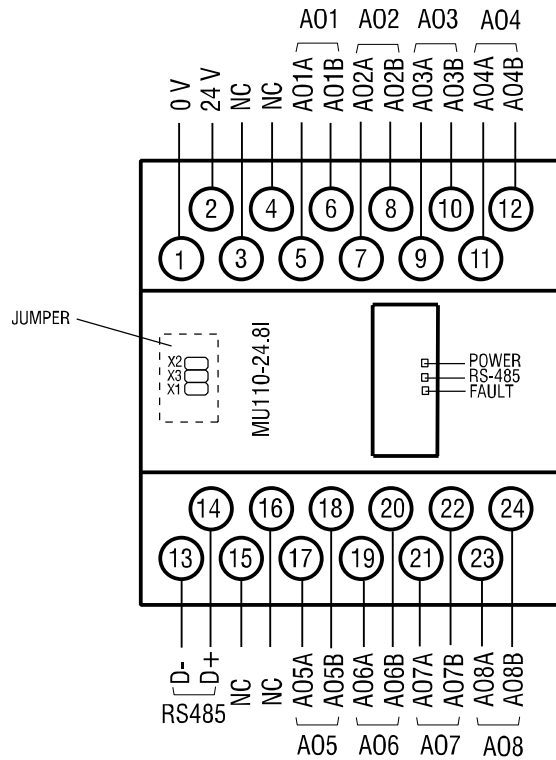

Fig. 4.1 Electrical connections
There are three jumpers under the front cover (see Fig. 4.1):
- The electrical connections are shown in Fig. 4.1 and 4.2 the terminal assignments in Table 4.1.
- Open the front cover (see Fig. 4.1)